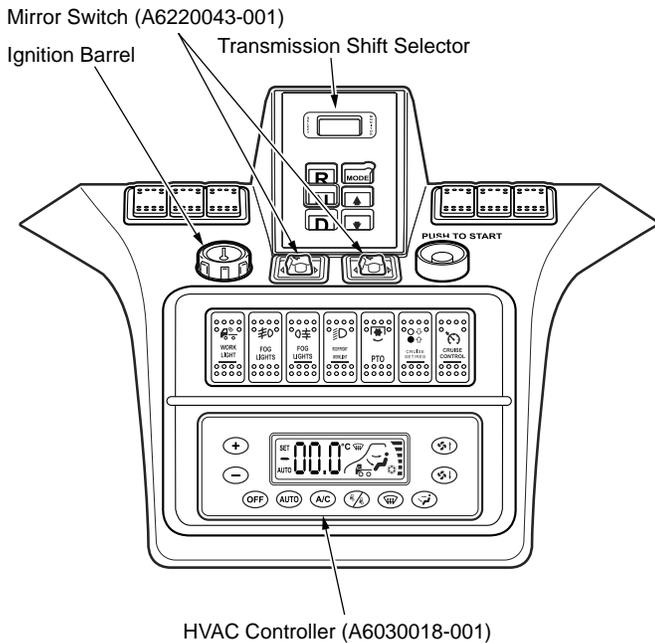

Figure 30-1
1. Connect the transmission shift selector connectors (see *Figure 30-1*).
2. Connect the mirror switch (A6220043-001) connectors (see *Figure 30-1*).
3. Connect the ignition barrel connector and the HVAC controller (A6030018-001) connector (see *Figure 30-1*).